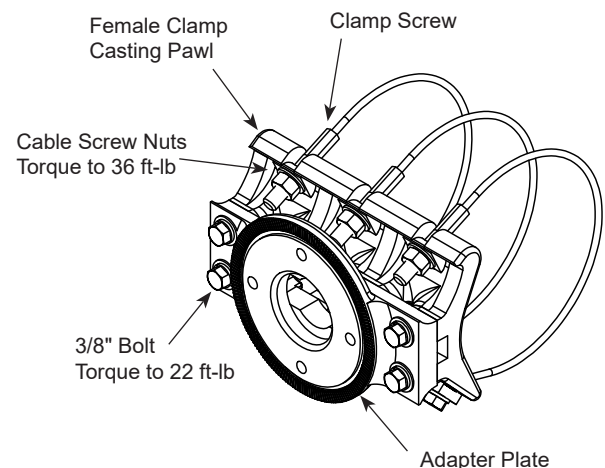

Figure 2
5. Place the cable screw assemblies in the casting pawls of the female clamp as shown. (Figure 2)
7. Torque the (6) 3/8" cable plate bolts to 22 ft-lb. **DO NOT OVERTIGHTEN.**
11. Place the free ends of the cables in the slots provided on the clamp body and position the adapter plate on the clamp making sure the cables are not pinched between the clamp and adapter body. Install the (4) 3/8" hex head bolts, flat washers, and lock washers and torque to 22 ft-lb. **DO NOT OVERTIGHTEN.**